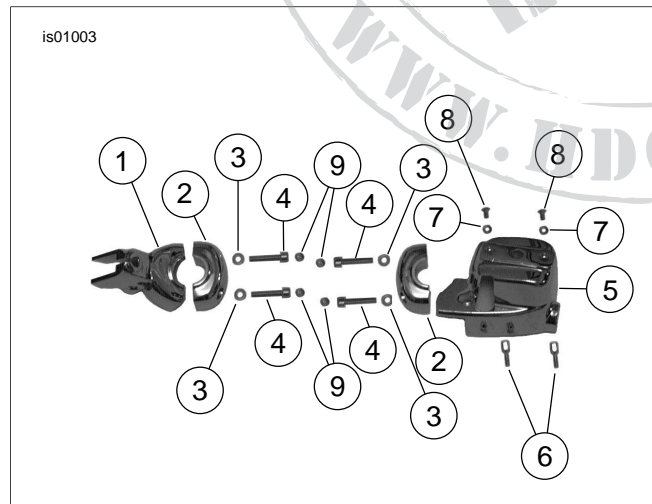

Figure 1. Kit Components
Table 1. Figure 1. Kit Contents
2. See Figure 1. Install the new chrome clutch bracket (1) using a clamp half (2), washers (3) and screws (4) from the kit. Tighten the screws to 70-80 **in-lbs** (7.9-9.0 Nm).
5. See Figure 1. Install the new chrome clamp half (2) on the front brake master cylinder assembly using washers (3) and screws (4) from the kit. Tighten the screws to 70-80 **in-lbs** (7.9-9.0 Nm).